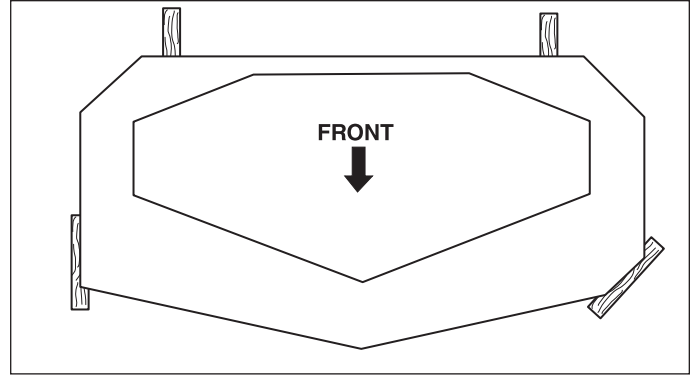

Figure 10. 2 x 4 Locations
3. Place the 2 x 4 blocks under each corner of the mower deck with the 3-1/2" sides being vertical. Place a 1/4" (0,64cm) thick spacer on top of the rear 2 x 4's. See Figure 10.